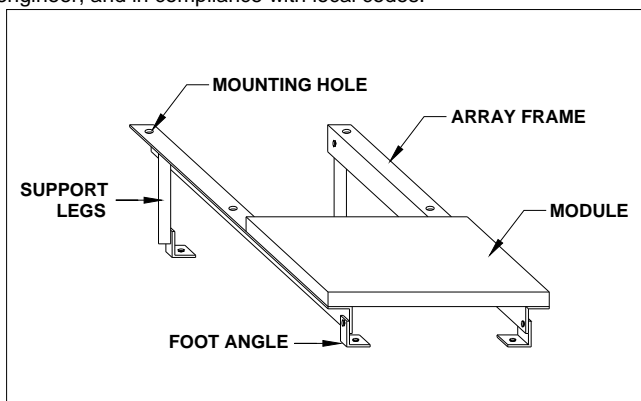

Figure 2. Basic Rack or Stand-off Mounting Structure
The minimum spacing of 50mm (2") is required between PV module and the mounting surface around the perimeter of PV module. The frame of each PV module has 9mm (0.35") diameter mounting holes (Refer to Module Mounting Specifications). These are used for fixing PV modules to the supporting structure. PV module frames must be attached to a support structure using M8 (5/16") stainless steel screw in a minimum of four (4) places symmetrical on PV module. The stainless steel screw used for fixing the module frame should secure with an adequate torque. (usually, 19 N-m (14 ft-lb).) An example of a ground mounted structure is shown in Figure 2. The four holes close to the corners of the module are most often used for installation. Refer to the Mounting Specifications for the position of these holes. Clearance between PV module frame and the mounting surface may be required to prevent the junction box from touching the surface, and to circulate cooling air around the back of PV module. Spacing between PV modules must be a minimum of 1/8" (3.2 mm) to allow for thermal expansion. If the modules are to be installed on the roof or wall of a building, the stand-off method or the rack method is recommended.